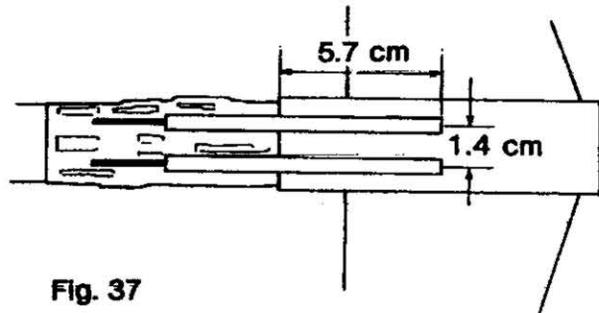

Fig. 37
**B** Cement two Laser Cannons to the Upper Surface on the Strike Vehicle. Use the dimensions illustrated in Fig. 37 to guide you in placing the Cannons.